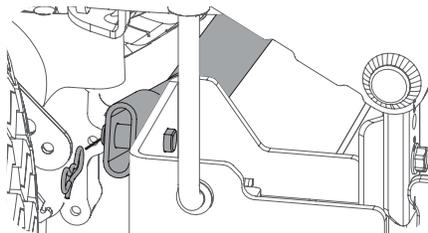

Figure 50
- Remove the bow-tie cotter pin on the right side of the bar connecting the bar with the bracket on the deck. See Figure 50.